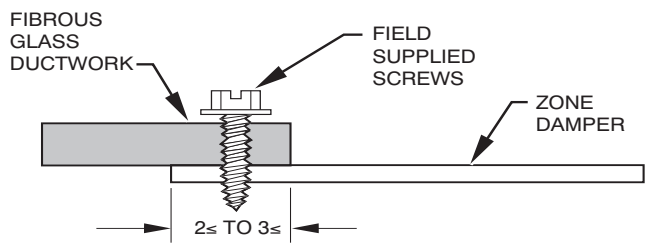

Fig. 7 - Rectangular Fibrous Glass Ductwork
1. Insert one end of the zone damper into the fibrous glass ductwork end approximately 2 to 3 inches (See Fig. 7).